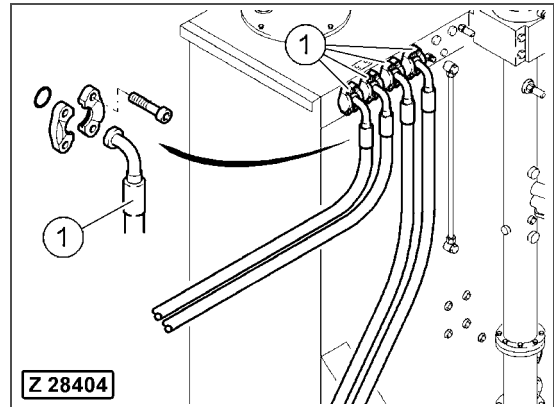

Fig. 3-79
5. Disconnect the hydraulic hoses (Fig. 3-79, Pos. 1), leading to the hydraulic coolers, from the hydraulic oil reservoir.